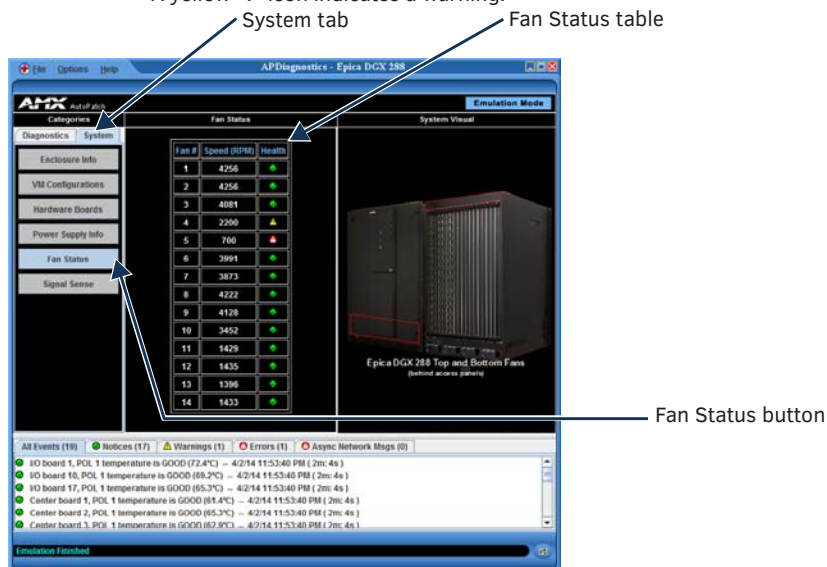

FIG. 43 Fan Status table for Epica DGX 288 showing good (green), warning (yellow), and error (red) fan “health”
3. In the center pane, view the Health column in the Fan Status table (FIG. 43).